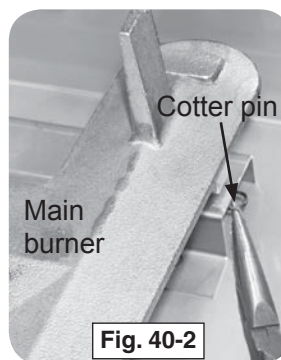

Fig. 40-2
2. Remove the cotter pin from the left or right rear burner anchoring peg by pulling it straight out of the cotter pin hole using fingers or needle-nose pliers (Fig. 40-2).